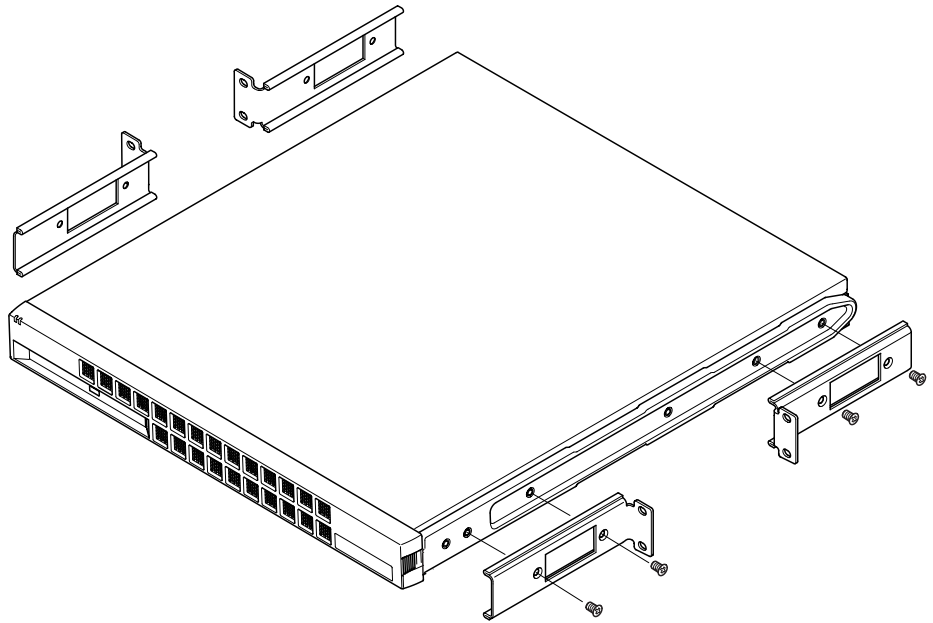

FIGURE 5-11 Fitting the Fixed Mounting Brackets
2. Remove the first, third and fourth fixing screws from the plastic slide-mounts on the sides of the unit (see FIGURE 5-11).
Use the Phillips-head countersunk screws provided. See FIGURE 5-11, but do *not* fit the rear brackets yet.